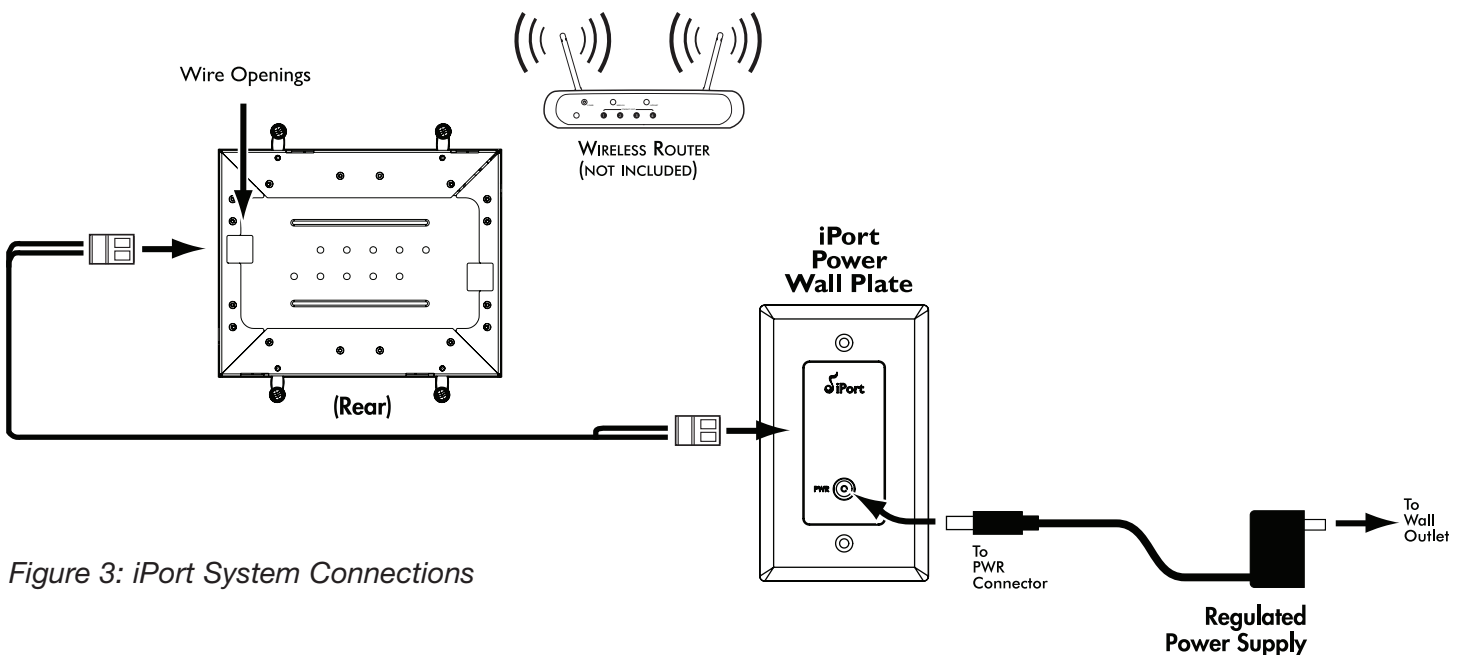

Figure 3: iPort System Connections
See Figure 3
1. Before making connections, run a length of power wire through the wall from the Control Mount location to the power wall plate location, as shown in Figure 3. The wall plate can be located up to 200 feet from the control mount. We recommend 18 AWG 2 conductor wire which can provide power over distances up to 200 ft. (CAT wire may be used if using all 8 conductors, dividing into 2 groups of 4 conductors which will provide power up to 120 feet. Remove the RJ-45 on both ends to group conductors together).
3. Plug the included DC power supply into the Power connector on the wall plate and into a wall outlet, as shown in Figure 3.